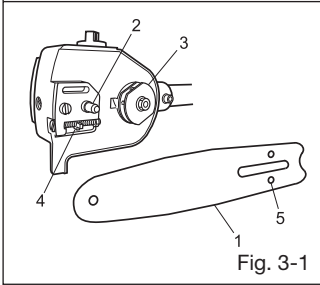

Fig. 3-1
### Leikkuulaitteen kiinnittäminen (Fig. 3-1)
1. Install the chain bar (1) onto the bolt (2), then push it toward the sprocket (3) as far as it will go. Make sure that the boss of chain tension adjusting bolt (4) fits into the hole of the bar (5). (Fig. 3-1)